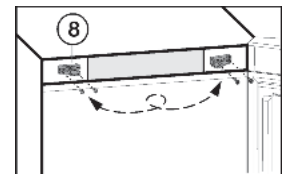

Fig. 14
- ▶ Unscrew bearing part Fig. 14 (8), turn it 180° and move it to the opposite side. Make preliminary holes (optional) or use a cordless screwdriver.